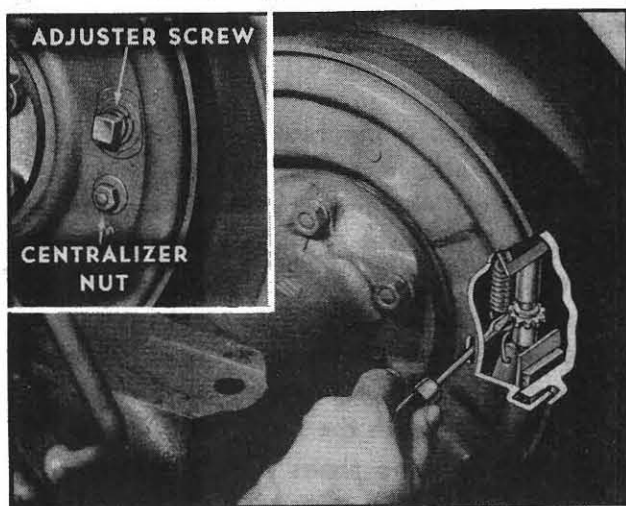

Fig. 281
2. Using a screwdriver, as shown in Fig. 281, turn the adjusting screw star wheel counterclockwise, when viewed from above, until a drag is felt as the wheel is turned then back off the star wheel until the wheel rotates freely.
3. Loosen the centralizer nut "B" as shown in the insert in Fig. 281. Turn the adjuster shank until the shoes are fully expanded in the drum and the wheel is locked. Tighten the centralizer nut and then loosen the adjuster shank until the wheel is just free to turn without drag.